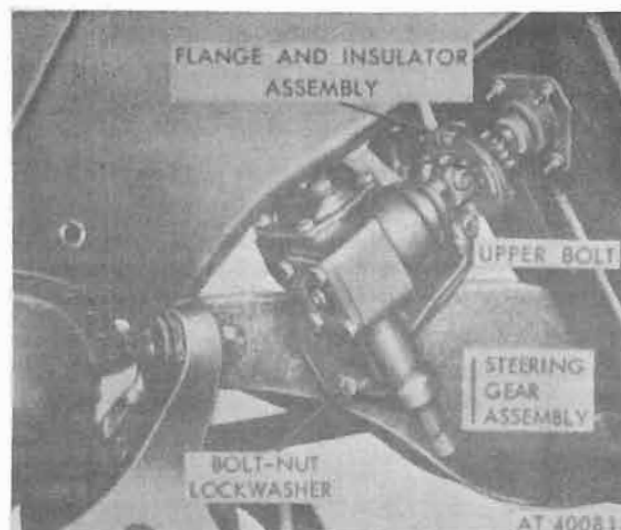

Figure 16-1. Steering gear and attaching hardware (M151A2, M718A1, and M825 vehicles).
- a. Remove one bolt from upper portion of flange and insulator assembly (fig. 16-1).
- b. Remove three bolts, nuts, and lockwashers securing steering gear to frame side rail (fig. 16-1), and remove steering gear for further disassembly.